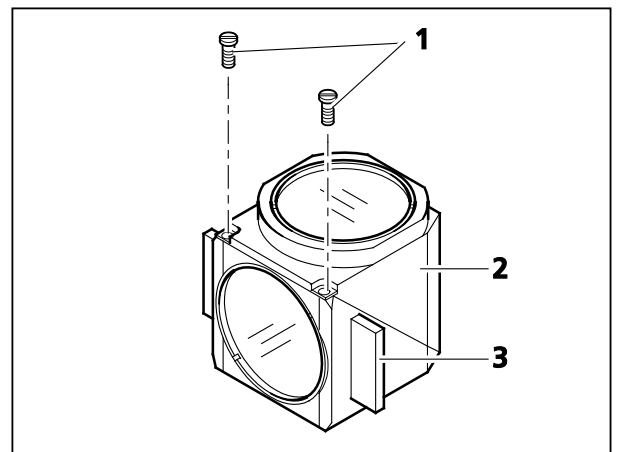

Fig. 38 Changing the beam splitter
- Loosen both slotted screws (Fig. 38/1) using a screwdriver.
- Hold both halves of the reflector module together (**emission** half (Fig. 38/2) and **excitation** half (Fig. 38/3), turn them in the position opposite to the installation position and put them down.
- Tilt up the **excitation** half (Fig. 38/1), which now is on top, and remove it from the retaining elements (Fig. 38/5b) of the lower half (**emission**) (Fig. 38/4).
- Remove beam splitter (Fig. 38/2) and spring-loaded frame (Fig. 38/3) from the lower half of the module.
- Remove the old beam splitter and carefully place the new one on the spring-loaded frame (Fig. 38/3) with the reflecting side facing up and place both parts together into the lower half of the module. Ensure that the catch on the side of the spring-loaded frame is positioned in the recess in the lower half of the module.
- Place the **excitation** half of the module (Fig. 38/1) on top of the **emission** half (Fig. 38/4) (retaining elements Fig. 38/5b engage with eyelets Fig. 38/5a). Holding the two halves together, turn the module back into the position for insertion.